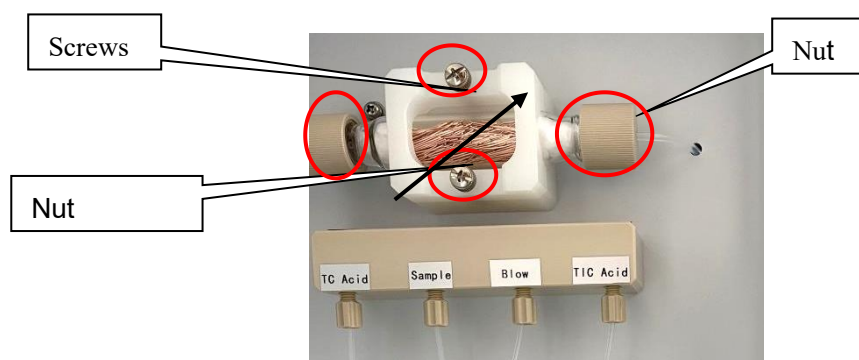

Fig.6.23
1) Unscrew the nuts on the both sides of the halogen removing tube and the fixed screws (Fig.6.23).